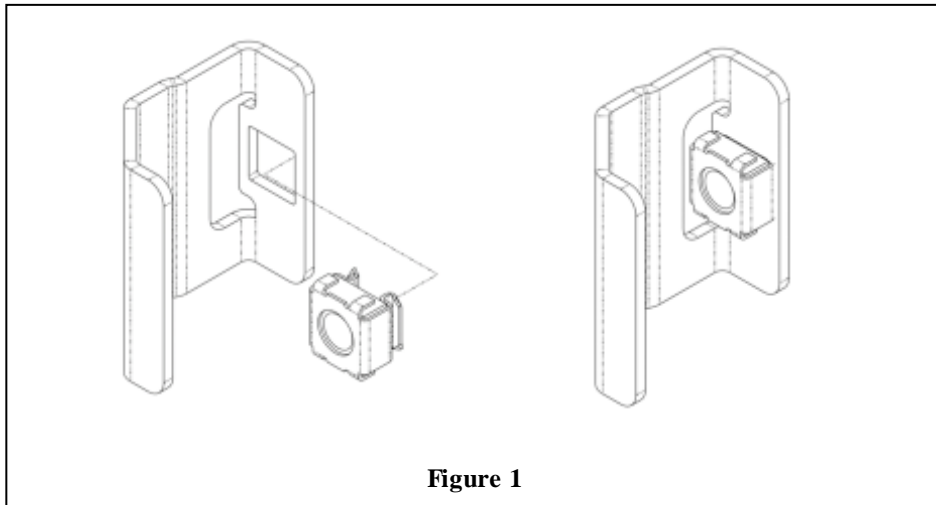

Figure 1
1. Orient cage nuts as shown. Install into brackets. See Figure 1.